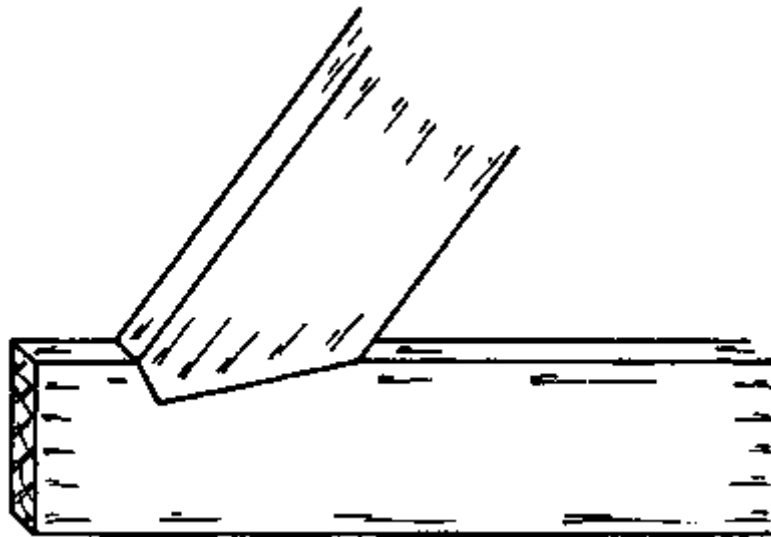

Fig. 3 (q)
- q. Chisel the notches in the ledges (Fig. 3).